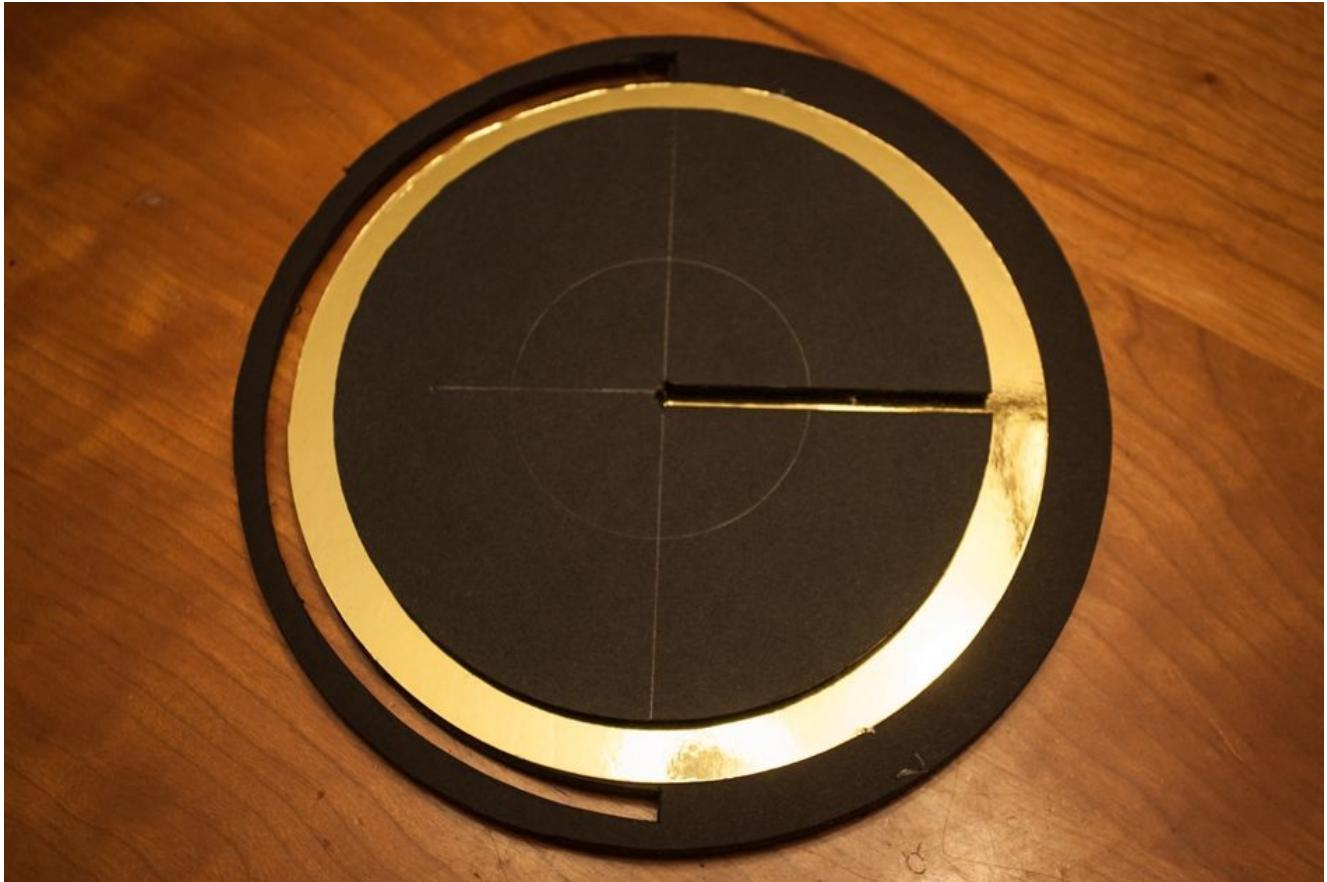

Figure 7-5. The gnomon and base disks, showing the inner track and decorative extra circle on the base disk
5. Draw an 8" circle on a new sheet of foam core. Within this circle, from the same centerpoint, cut two 180° arcs on it that will create a track 1/4" wide. The inner arc should be 7" in diameter (3.5" radius) and the outer 7.5" in diameter (3.75" radius). You can see this track in Figure 7-5.
7. Glue the gnomon disk to the base disk, orienting the gnomon slot so that it points *exactly opposite* from the base disk's track, as in Figure 7-5.